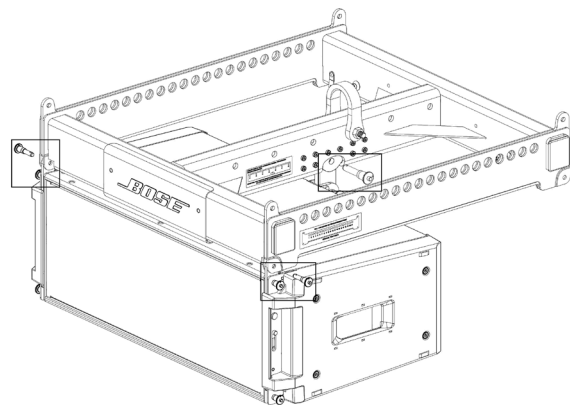

Fig. 2. Insert pins to attach module to frame
10. Insert two front pins (one on each side), then insert rear center pin to secure module to frame. See Fig. 2.